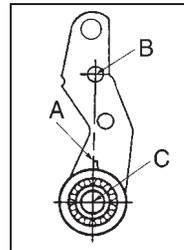

Figure 7
2. Tang of wrap spring (71) must be below, and must make contact with, wrap spring stop (76) when solenoid lever (28) is manually raised. If stop is bent outward, allowing tang to bypass it, rebend to square position, assemble correctly, and reset solenoid air gap as described in Paragraph 1.
3. Should air gap disappear due to overheating, oil or other lubricant may have been applied to solenoid lever and pinion assembly (8). Remove support plate assembly (142). Loosen pressure spring nut (19) until pressure spring (11) is free. Remove cotter pin (8P) from solenoid lever (28) and retaining ring (131R) from pivot pin (131). Note location of spacer washer (138) if used, and push pivot pin out to free affected assembly. Remove retaining ring (32R) from pinion (32) and disassemble. Parts should be thoroughly cleaned in a solvent that does not leave a film M.E.K. or equivalent. Dry all parts thoroughly and reassemble. Rotate pinion and wrap spring clockwise until tang (A) is aligned with centerline of the upper hole of the lever arm. Refer to Figure 7. Reassemble in reverse order. Do not retighten cap screw (19) until support plate assembly is mounted on endplate. Refer to Steps H and I of